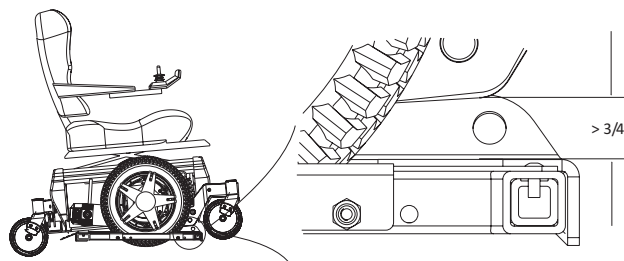

Figure 6-20
3. If the chair is leaning too far to the driver's side of the vehicle, move the passenger side wheel chock away to create a bigger opening. See Figure 6-20.